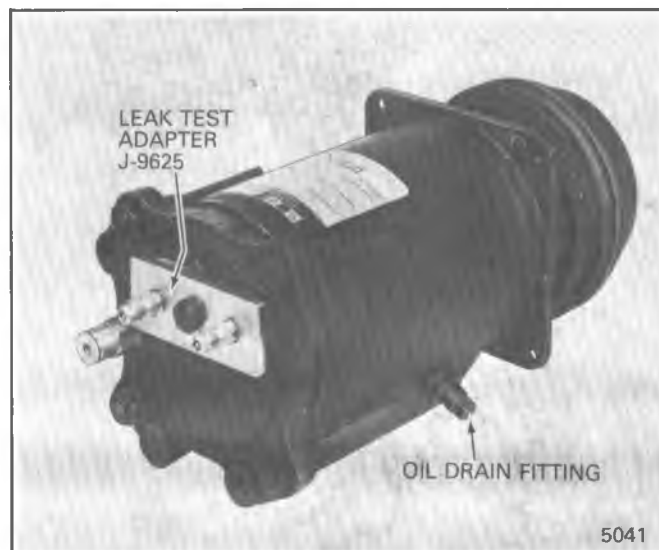

Fig. 1D-22 Leak Testing A-6 Compressor
10. Position the new metal sleeve retainer so that its flange face will be against the front end of the sleeve. The sleeve from seal seat remove installer tool J 9393 may be used to install the retainer. Press and tap with a mallet, setting the retainer and sleeve into place (retainer should be recessed approximately .8mm (1/32") from the face of the compressor neck). (See Fig. 1D-21.)